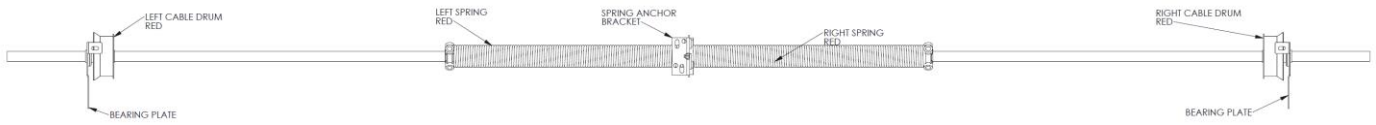

Figure 19
13. Assemble torsion system (complete with bearing plates): (Figure 19)